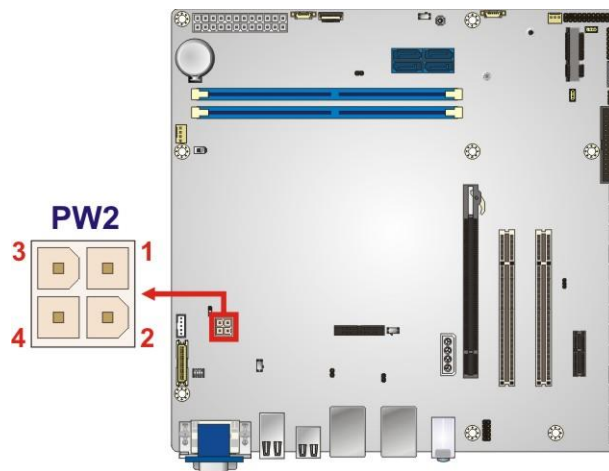

Figure 3-2: +12V ATX Power Connector Pinout Location
- CN Location:** See Figure 3-2